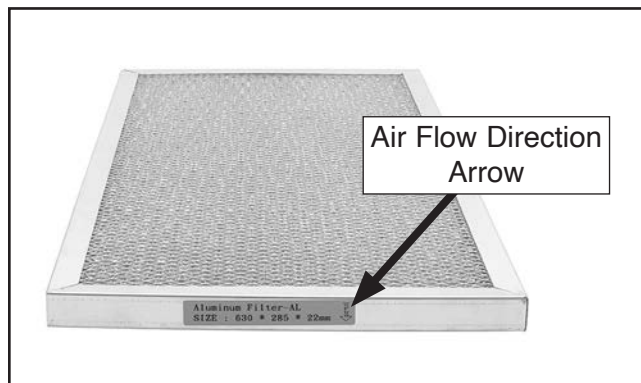

Figure 54. Location of aluminum mesh filter air flow direction arrow.
9. Install aluminum mesh filter so air flow direction arrow on filter points in direction of machine air flow (see **Figure 54**).